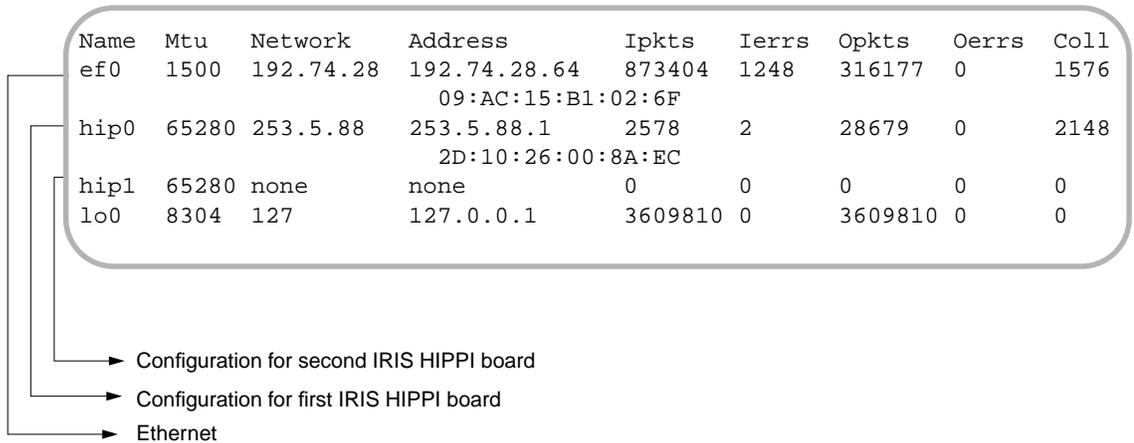

Figure 3-4 The `/usr/etc/netstat -ina` Display
1. Obtain the IP network addresses for all the IRIS HIPPI boards on this system. This information can be displayed with the `netstat` command shown below, or with `hipmap -a`. The network address is listed in the column labelled `Network`, as illustrated in Figure 3-4.
where `hip#_networkaddress` values are the addresses from the `Network` column of the `netstat` display (illustrated in Figure 3-4).